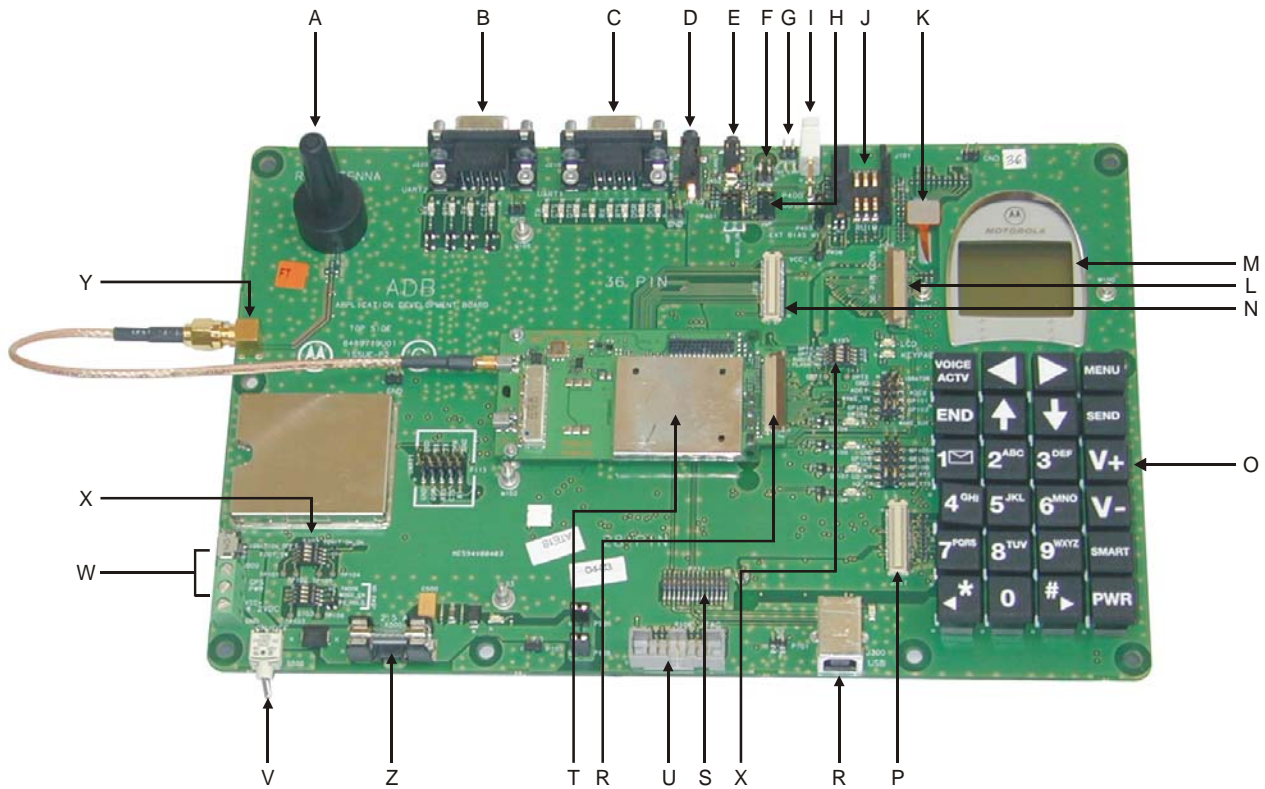

Figure 2. Developer Board Components
Figure 2 shows the Developer Board and its components.
5. Mount the antenna onto the antenna base (M601; A in Figure 2) on the Developer Board.
6. Connect the desired communications cable between a PC and the Developer Board (RS232 or USB). If an RS232 cable is used, connect the RS232 cable to the connectors marked J210 and UART1 (C in Figure 2). See “J210 – RS232 DB9 Connector (UART1)” on page 15.
To select RS232 mode, make sure the RS232 cable is properly connected to the Developer Board and a PC. Move the S101 OPT1 configuration switch (X in Figure 2) to the closed position. See Figure 11 for more detail about the location of this switch.
This section describes the Developer Board and its components. See Figure 2 for a photograph of the Developer Board and its components.